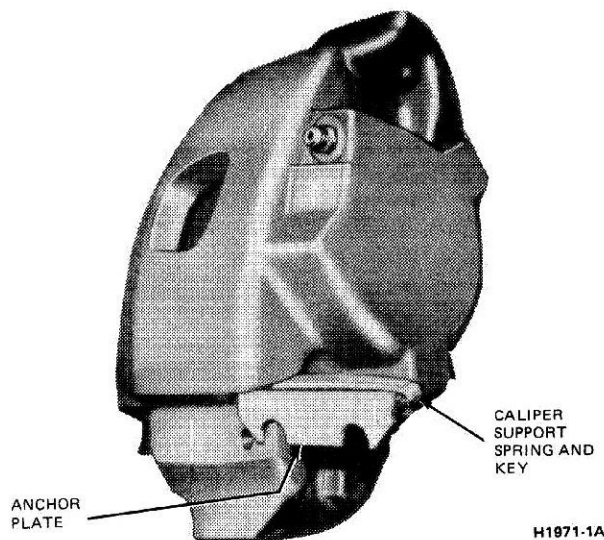

FIG. 10 Installing Front Caliper Support Spring and Retaining Key—Except Fairmont/Zephyr
13. Position the caliper support spring and key in the key slot and drive them into the opening between the lower end of the caliper and the lower anchor plate abutment. Align the semi-circular slot in the key with the threaded hole in the anchor plate (Fig. 10).